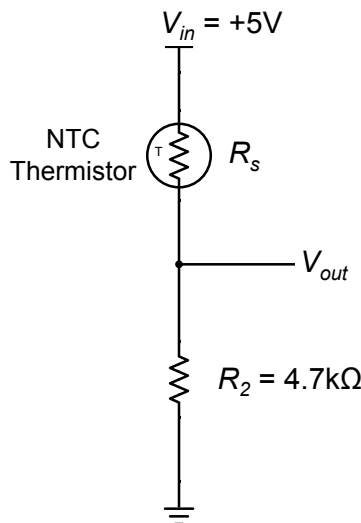

Figure 4 – A thermistor is wired up in a voltage divider circuit.
3. On the far end of the breadboard, construct the thermistor voltage divider circuit shown in Fig. 4 somewhere near the center of the breadboard. Test the circuit by measuring V_{out} relative to ground. The voltage V_{out} should increase when you warm up the thermistor in your hand.